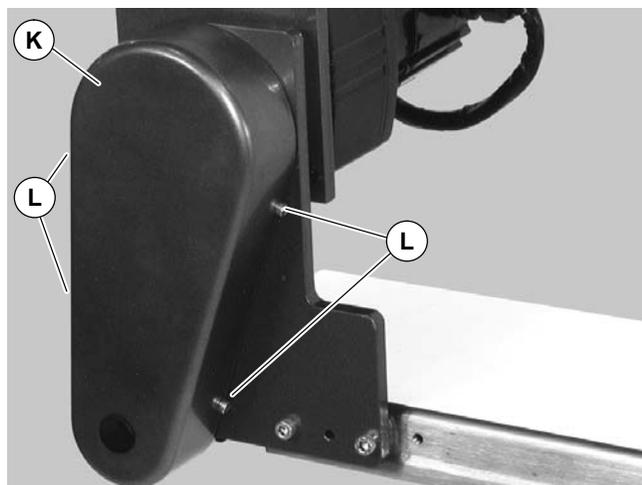

Figure 13
9. Install cover (K of Figure 13) with four screws (L).
1. Remove four screws (L of Figure 13) and remove cover (K).
4. Install cover (K of Figure 13) with four screws (L). Tighten to 35 in-lb (4 N-m).
6. Install cover (K of Figure 13) with four screws (L). Tighten to 35 in-lb (4 N-m).
4. Remove four screws (L of Figure 13) and remove cover (K).